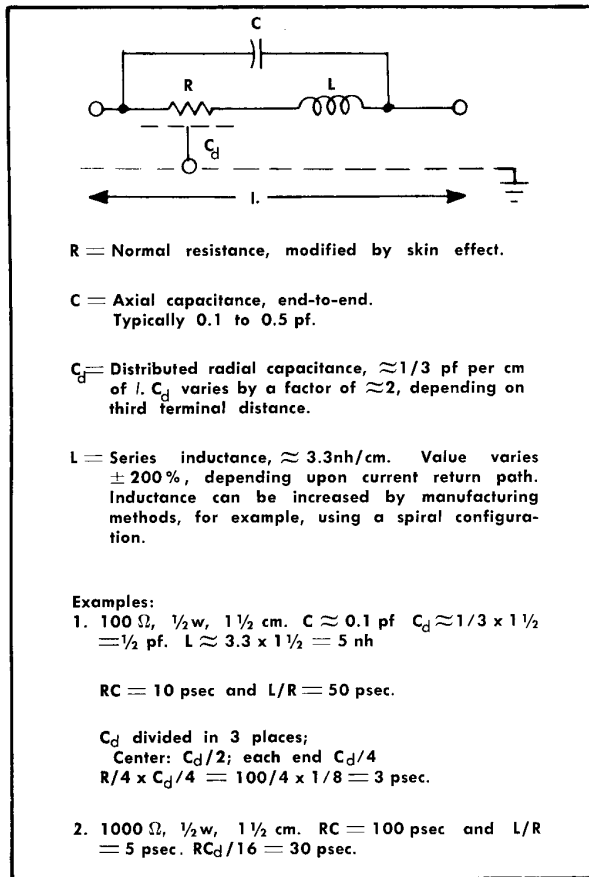
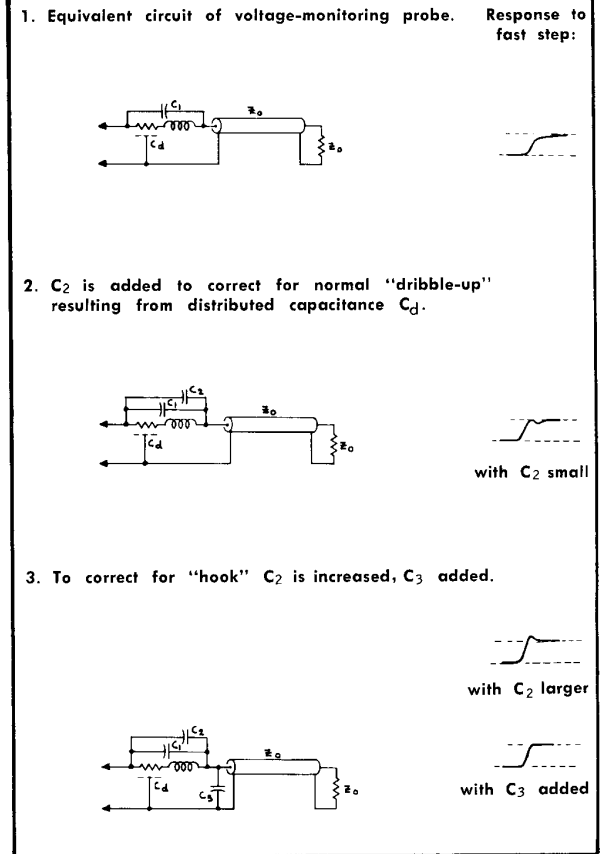

Fig. 2-7. Equivalent circuit and environment of a deposited carbon resistor.
Fig. 2-8. Fractional nanosecond compensation of low resistance passive probes.
Major limiting factors, when building attenuator probes, are the resistor characteristics at fractional nanosecond speeds. Fig. 2-7 shows the equivalent circuit of a deposited carbon resistor with normal axial leads. Because of these equivalent circuit characteristics, frequency compensation of the terminated cable probes of Fig. 2-5(IA) requires the special construction techniques shown in Fig. 2-8.